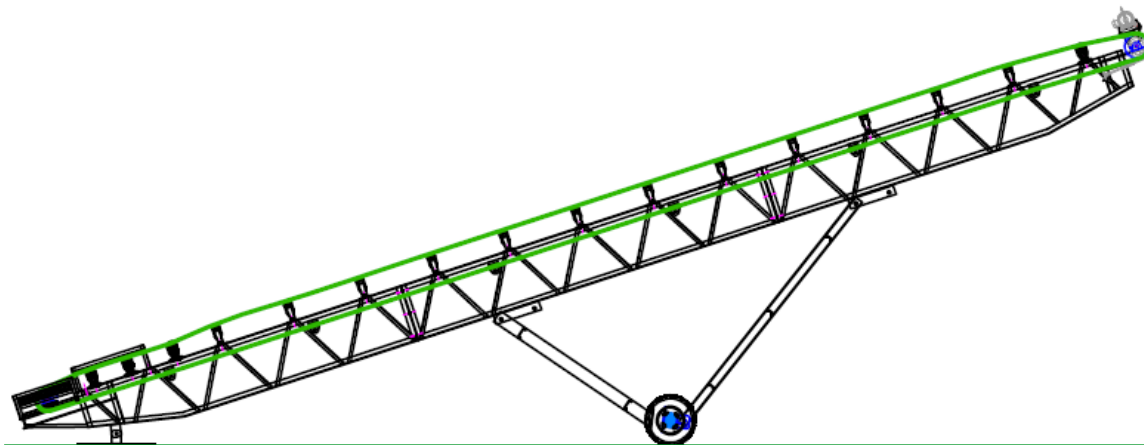

Figure 9
- 7.3 Raise head of conveyor and pin Rear Leg into desired position. (See Figure 9)